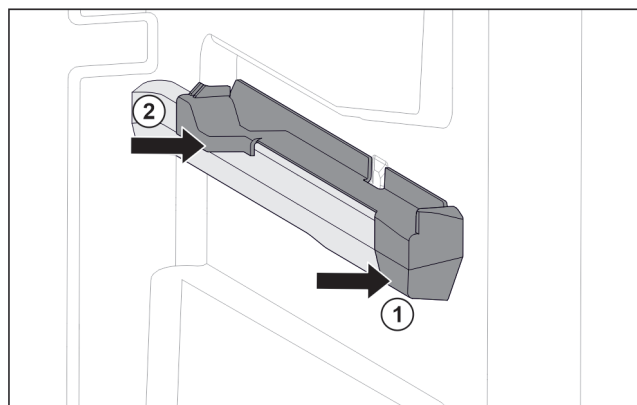

Fig. 32 Attachment on the right moulded rib
- Position attachment on moulded rib at the front. Fig. 32 (1)
- Press on attachment at the back. Fig. 32 (2)